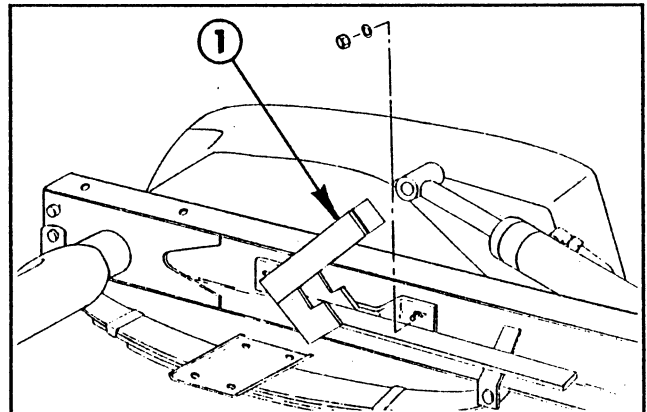

FIG. 7
24. Remove the (2) screws that hold the console and console mounting bracket to the vehicle.
27. Loosen and remove the (2) 3/8" nuts and attaching bolts that hold the left rear fender to the vehicle frame. Install a 10 GA. flat washer on each bolt and install the bolt through the fender and vehicle frame and mount the tank support bracket with these bolts. Reinstall the nuts and tighten securely. If not equipped with fenders, use the hex head cap screws and nuts provided. See FIG. 7.